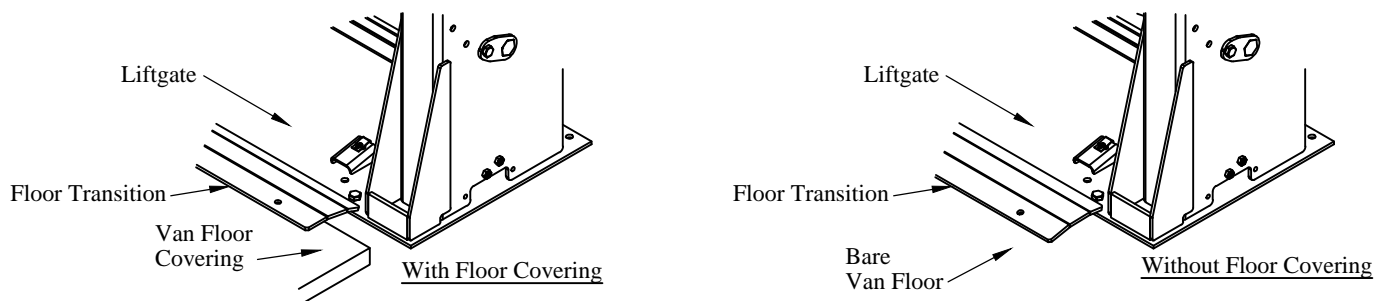

Figure 19: Floor transition.
1. **Position** the floor transition with one side on the liftgate and the other side on the van floor (Figure 19).